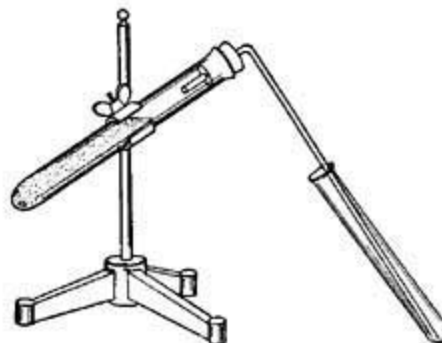

FIG. 24.—Making carbon dioxide from marble and hydrochloric acid.
49. How to Obtain Carbon Dioxide. There are several ways in which carbon dioxide can be produced commercially, but for laboratory use the simplest is to mix in a test tube powdered marble, or chalk, and hydrochloric acid, and to collect the effervescing gas as shown in Figure 24.